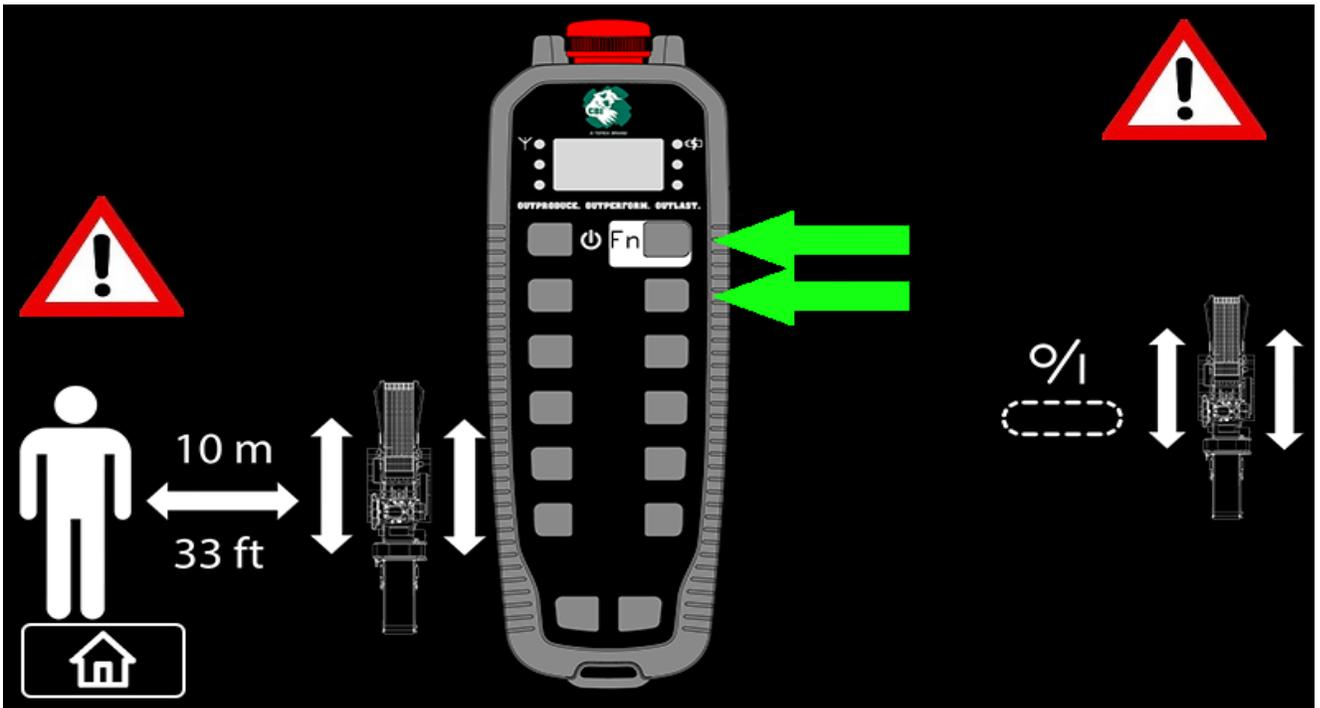

Figure 5.7 - Enable Track Mode on the Remote
8. Enable TRACK MODE on the remote by pressing and holding the FUNCTION and RUN MODE SCROLL buttons for three seconds (Figure 5.7). The track mode alarm will sound.